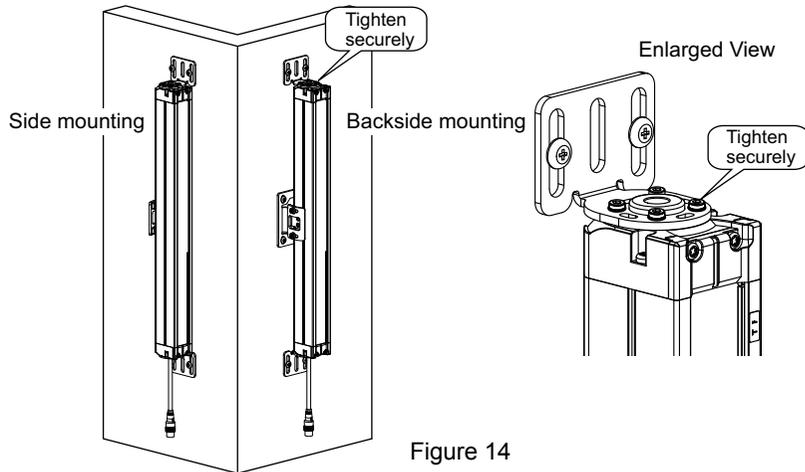

Figure 14
8. Tighten the lightly fastened hexagon socket head cap screws (M3 x 8) of the top/bottom mounting brackets. (Figure 14)